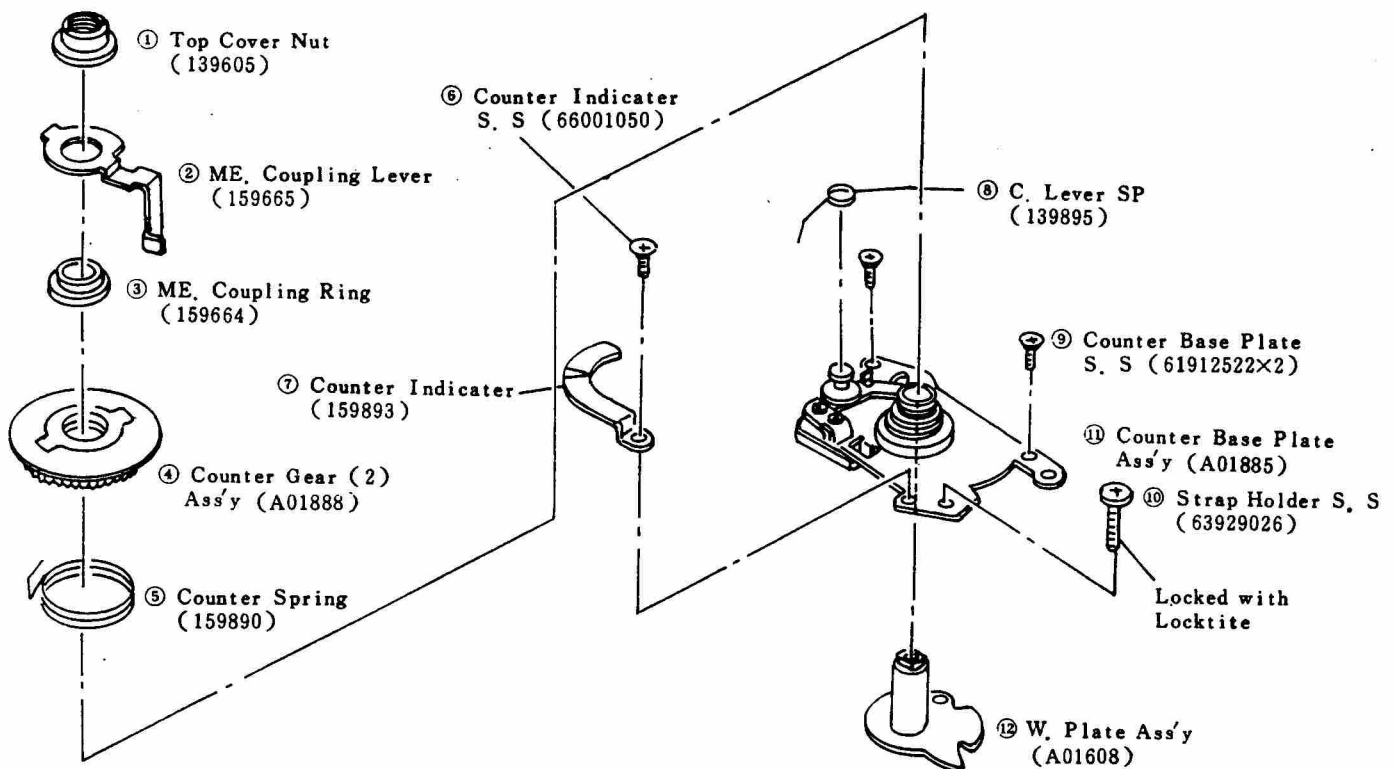

Fig 26
- b) Remove the respective parts ① ~ ⑫ shown in (Fig 26) in numerical order.